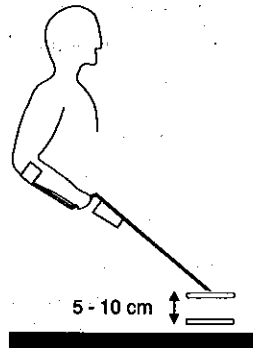

Figure 13 — Pumping
- f) Move the coil up and down near the ground surface. This allows the Automatic Ground Balance feature to set the balance. Keep "pumping" the coil until there is no change in the audio signal accompanying the movement (see Figure 13).